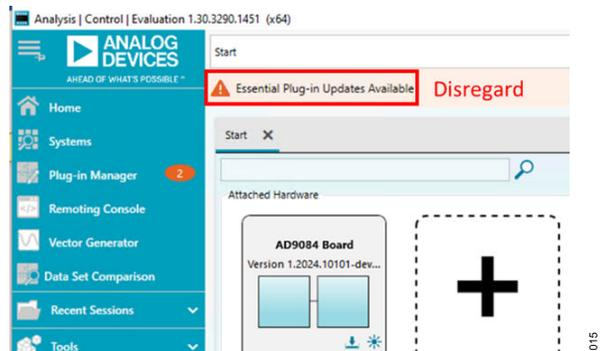

Figure 16. Essential Plug-in Updates Available Message
- If within the **Attached Hardware** section an **Essential Plug-in Updates Available** message appears, users should disregard this message (see Figure 16).